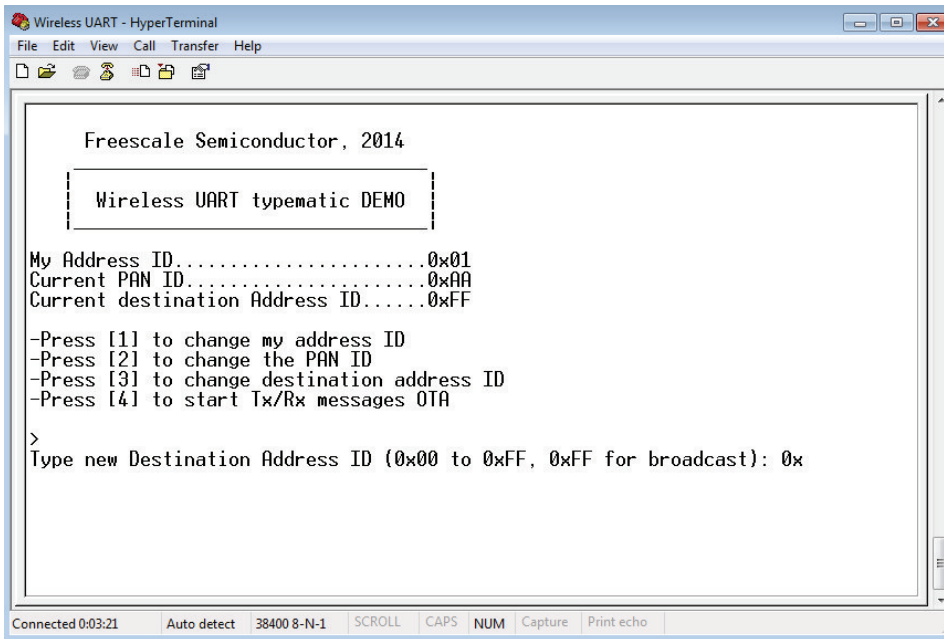

Figure 3-4. Destination Address ID string
3. To change the Destination Address ID, press “3” from the main menu and the Address ID string should appear as shown in Figure 3-4.